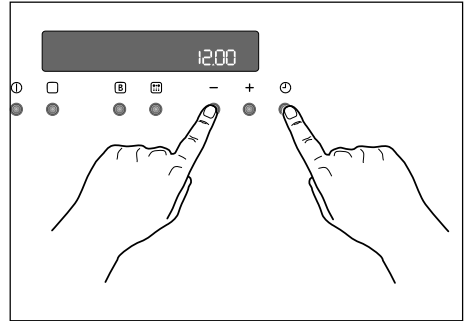

Fig. 15
2. Press the  and "—" buttons at the same time. A short acoustic alarm will be heard and the time 12:00 will appear in the display (Fig. 15).